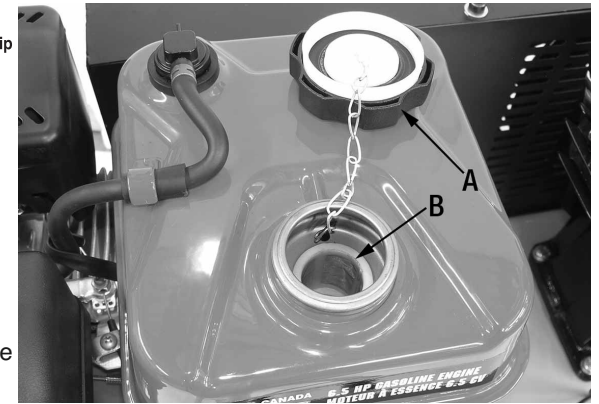

Figure 2
1) If it is necessary to add fuel, first make sure the engine switch is OFF, then open the fuel cap (A) Fig.2 by turning it counterclockwise.
2) Make sure the fuel filter cup (B) is positioned inside the tank opening before refueling.
3) Do not fill the fuel tank past the fuel cup (B). When refueling, keep in mind all safety precautions and make sure to add enough fuel based on usage. Use clean unleaded gasoline with a minimum of 87 octane. Do not mix oil with gasoline. Fuel tank capacity: 3.6 litres.